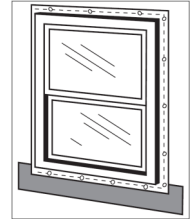

Figure 1
- 4) **Figure 1.** Install the window per the manufacturer's instructions.